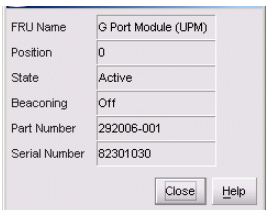

Figure 15 Port Card FRU Properties dialog box
- **FRU Properties**—Displays the port card’s Properties dialog box. This dialog box includes the FRU name, position (slot number in backplane), state (active or failed), beaconing state (on or off) part number, and serial number (see Figure 15 on page 57).